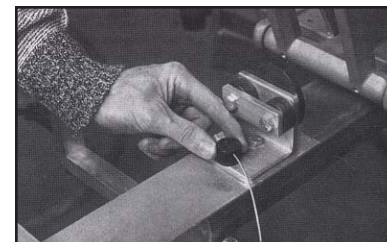

Fig. 33
1. Remove shirtboard and install the jacket hold down board onto the arm. Place the off-contact compensation cap over bolt head (Fig. 33).